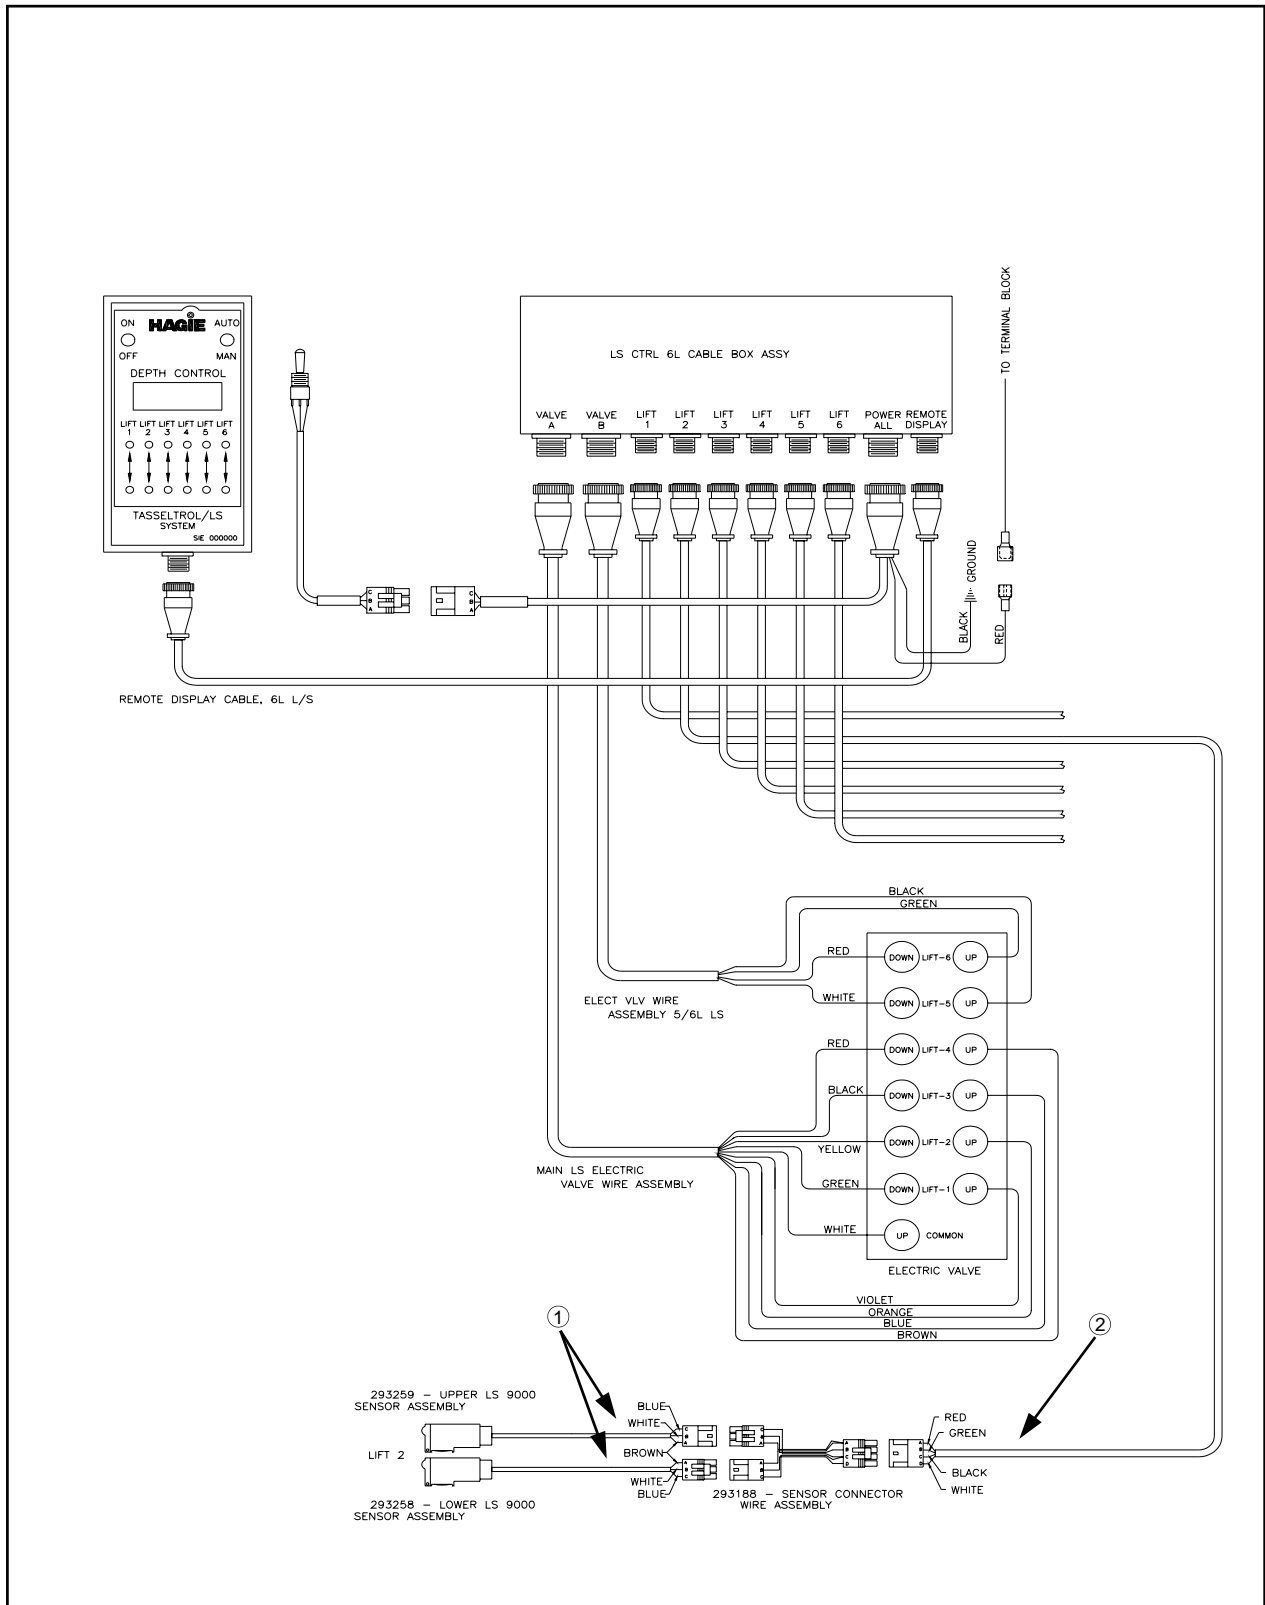

FIG 9.1
No lights at either photo sensor	Faulty connector cable (See page 130, fig. 9.1, item 2)  Faulty RED and/or BLACK wire in connector cable (See page 130, fig. 9.1, item 1)
Lights at lower photo sensor	<p>Faulty GREEN wire in connector cable (See page 130, fig. 9.1, item 2)</p> <p>Photo sensor not in line with reflector (See page 37)</p> <p>Faulty BLUE wire in sensor assembly (See page 130, fig. 9.1, item 1)</p>
No lights at lower photo sensor	<p>Faulty RED and/or BLACK wire in connector cable (See page 130, fig. 9.1, item 2)</p>
Lights at upper photo sensor	Faulty WHITE wire in sensor assembly (See page 130, fig. 9.1, item 1)  Faulty BLUE wire in sensor assembly (See page 130, fig. 9.1, item 1)
No lights at upper photo sensor	Faulty RED and/or BLACK wire in connector cable (See page 130, fig. 9.1, item 2)